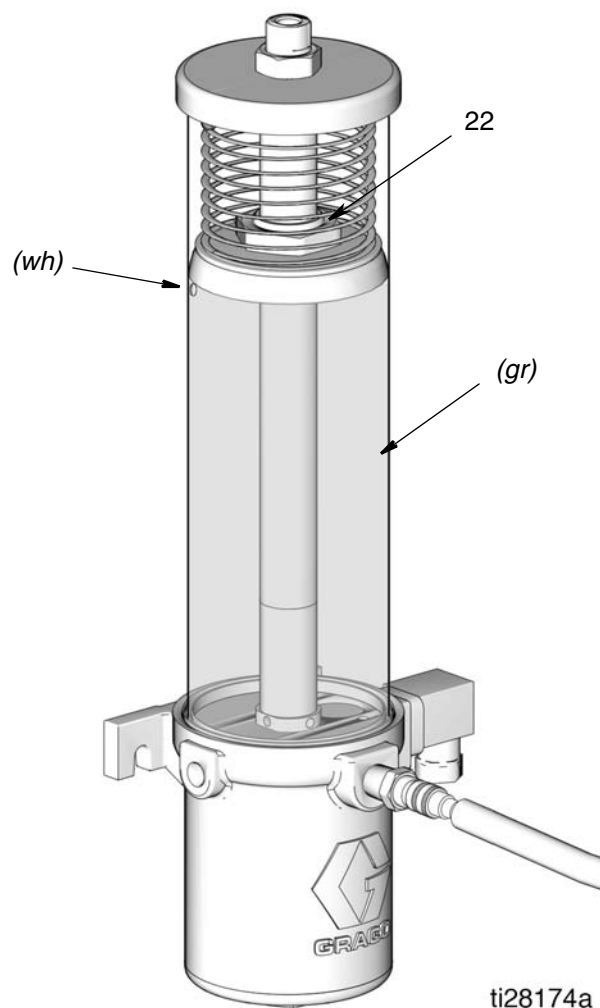

FIG. 5
- Slowly dispense grease from the fill pump into the reservoir until the grease in the reservoir lifts the lower plate (22) above the reservoir weep hole (*wh*), grease comes out of the weep hole (*wh*) and expels the air inside the reservoir (FIG. 5).